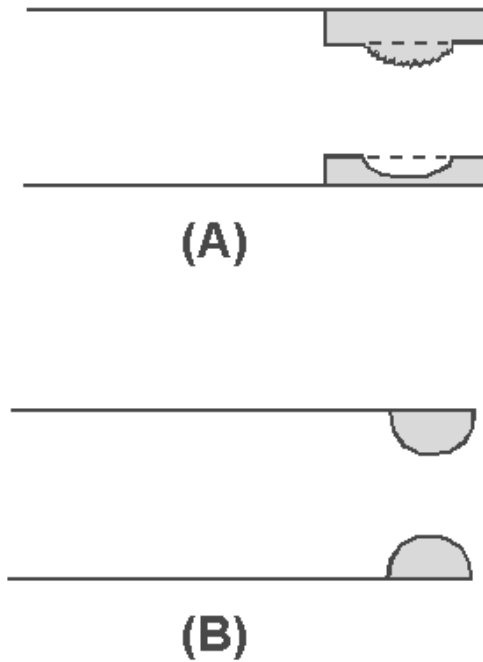

Figure 3-25.—Relay contacts.
When current flows in one direction through a relay, a problem called "cone and crater" may be created at the contacts. The crater is formed by transfer of metal from one contact to the other contact, the deposit being in the shape of a cone. This condition is shown in figure 3-25(A).
Some relays are equipped with ball-shaped contacts and, in many applications, this type of contact is considered superior to a flat surface. Figure 3-25(B) shows a set of ball-shaped contacts. Dust or other substances are not as readily deposited on a ball-shaped surface. In addition, a ball-shaped contact penetrates film more easily than a flat contact. When you clean or service ball-shaped relay contacts, be careful to avoid flattening or otherwise altering the rounded surfaces of the contacts, YOU could damage